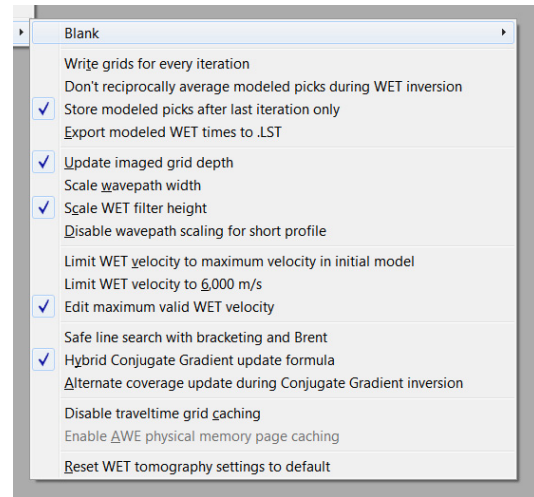

Fig. 10 : WET Tomo\WET tomography Settings
- Setup other settings in WET Tomo|WET tomography Settings as in Fig. 10